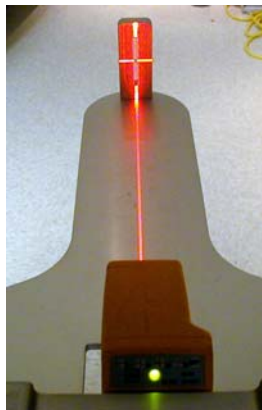

Figure 1-25 Laser Centering
- 11.) Use the locking screw on the bottom of the alignment bar to secure the laser to the bar, as shown in Figure 1-25. When done, the laser should fit snugly without moving on the mounting bracket.